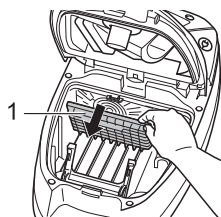

Fig. 22
2. Remove the filter holder with motor protection filter (Fig. 22/1). Your first flip the filter holder forwards and then pull the filter up and out.